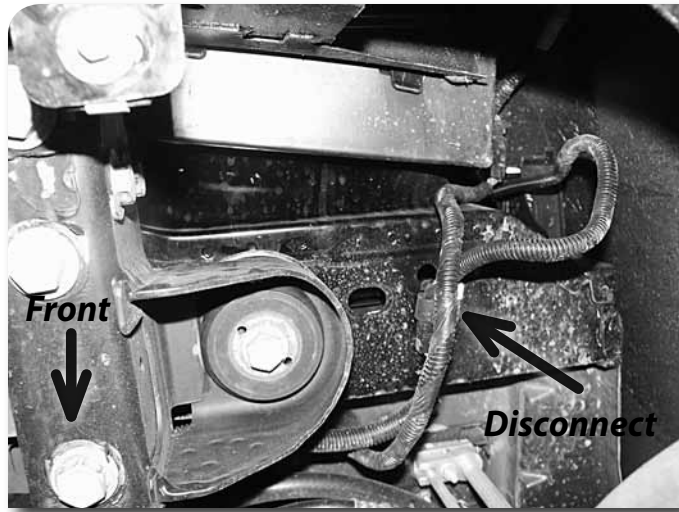

Figure 9
18. Disconnect wire harness that plugs into bumper cover on the passenger's side **Figure 9**.